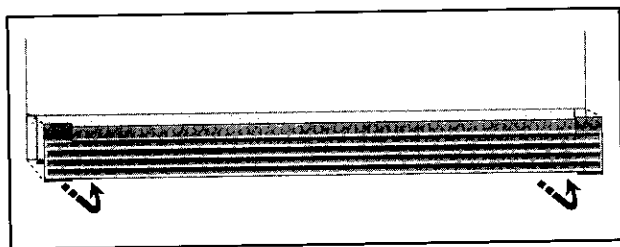

Figure 1.
1. Remove the base grille by grasping the bottom edge near each end and pulling out (Figure 1).